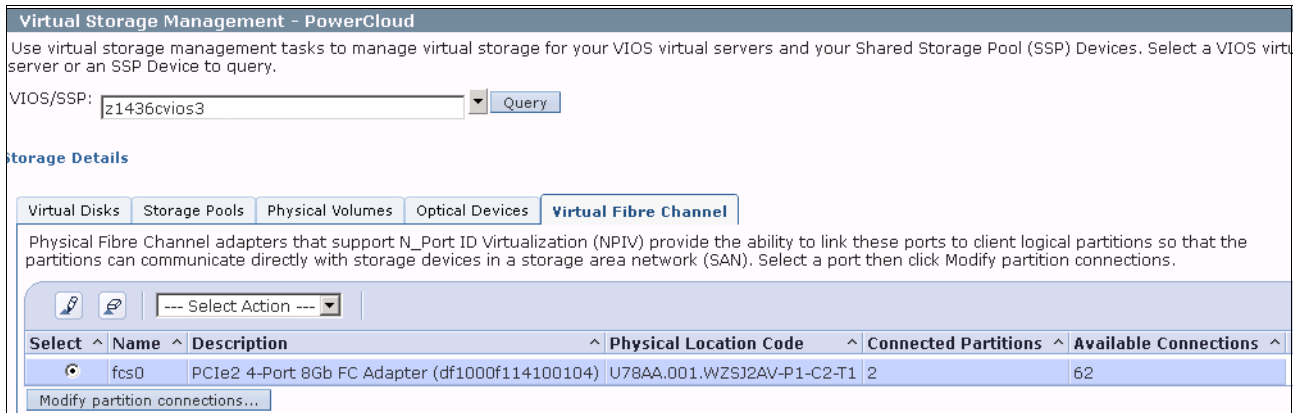

Figure 3-15 VIOS virtual Fibre Channel management
3. The result is shown in Figure 3-15. In the last tab (Virtual Fibre Channel) of this window, virtual server Fibre Channel adapters can be mapped to physical ports. The location of the physical ports is shown in the Physical Location Code column. Distribute the client partitions across the physical adapters according to the I/O load.